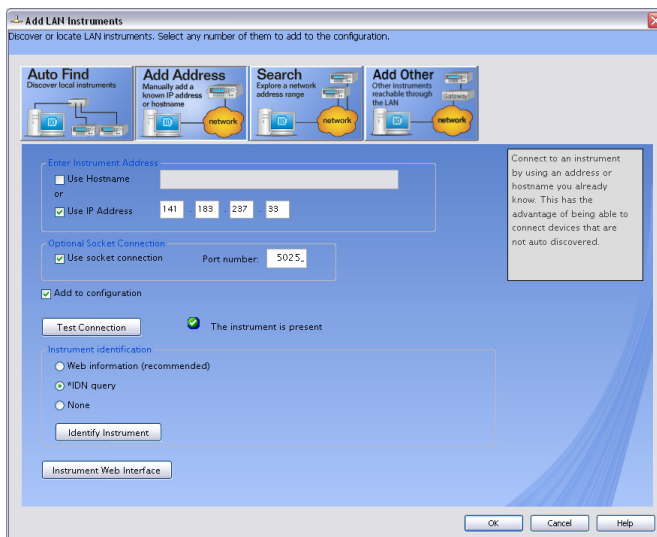

Figure 1-13 Add LAN Instruments window
- 3 On the Add LAN Instruments window (see Figure 1-13), click the **Add Address**.